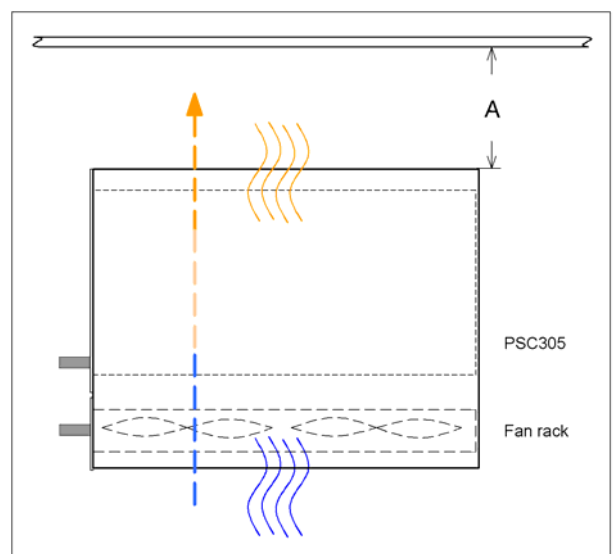

Figure 5B) Rack airflow with fan rack
**REMARK:** We recommend the use of the optional **fan rack** (see section 3.2), because in most applications there is not enough space for sufficient natural airflow inside the power supply cabinet. The fans are temperature-controlled and r.p.m.-monitored. The air flow is from bottom to top (see figure 5B).